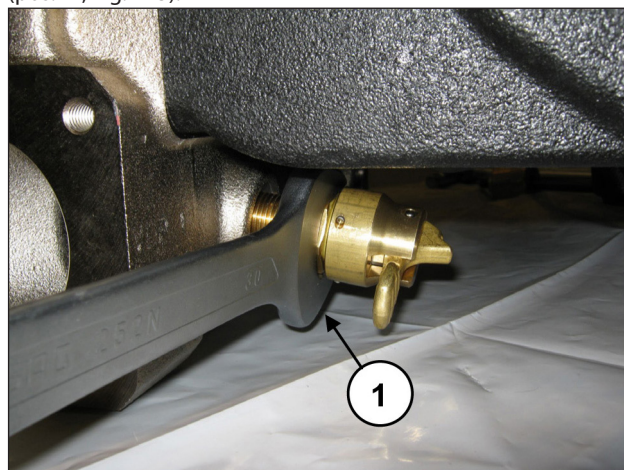

Fig. 145
Unscrew the valve opening device using a 30 mm wrench (pos. ①, Fig. 145).